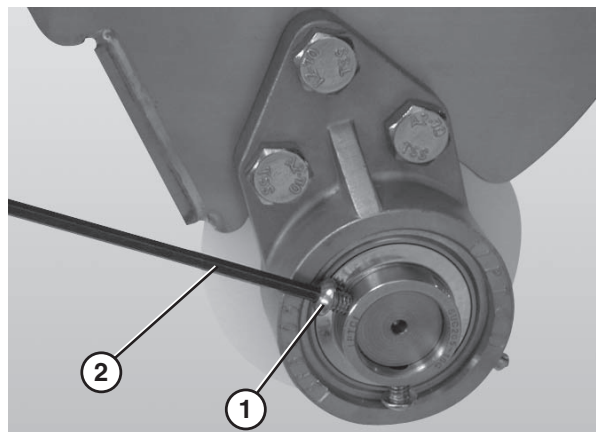

Figure 63
6. Loosen the 3 hole flange (**Figure 63, item 1**) with bearing fasteners using a hex wrench (**Figure 63, item 2**).